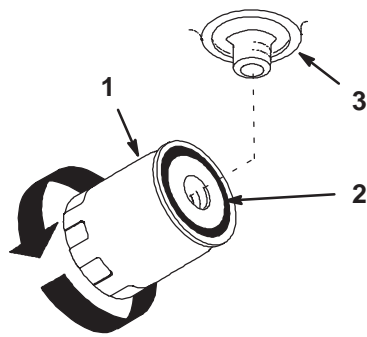

Figure 40
4. Apply a thin coat hydro fluid to the rubber gasket on the replacement filter (Fig. 40).
7. When fluid overflows filter turn the oil filter clockwise until the rubber gasket contacts the filter adapter, then tighten the filter an additional 1/2 turn (Fig. 40).